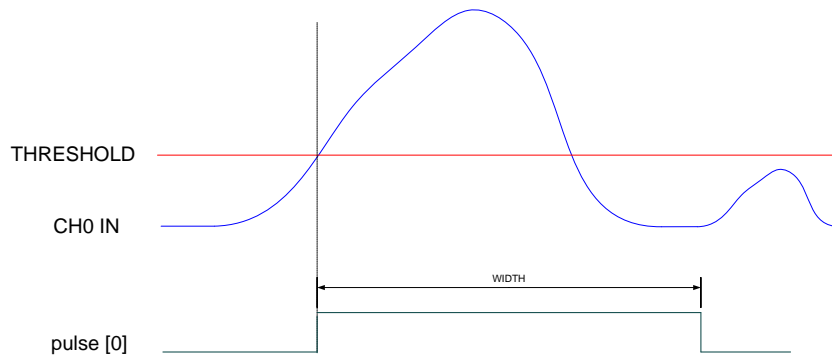

Fig. 8.12: Channel pulse signal
- a pulse of configurable width (see Fig. 8.12). The width parameter can be set at register address 0x1n70.